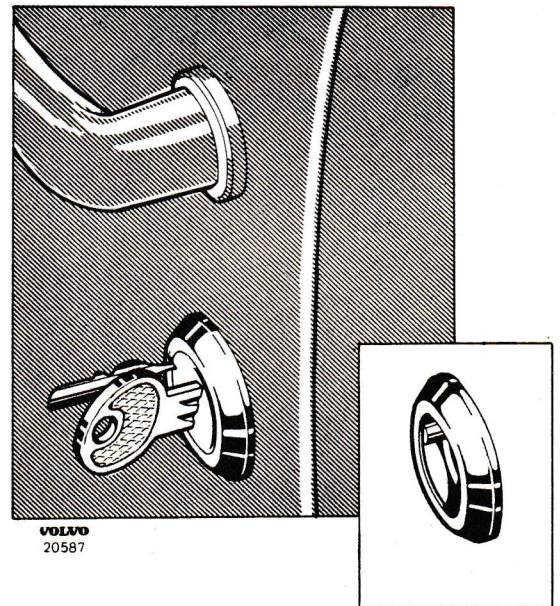

Fig. 24. Removing lock cylinder.
7. If the lock unit itself is to be removed from the lock cylinder, then the key is inserted and turned into its left-hand position. Then push in a small, pointed object such as a pen nib in the small recess in the lock plate. In this way a small catch is released and the lock unit may be drawn out after rotating slightly in an anti-clockwise direction as shown in Fig. 24.